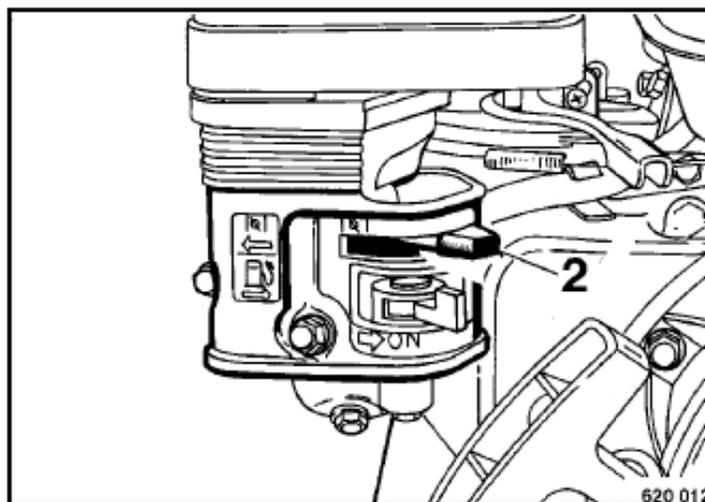

Fig. 7
- 1 Do not operate the lever 2 (Fig. 7) for the choke as shown. If necessary move the lever (2) to middle position according to the engine temperature resp. the ambient temperature.